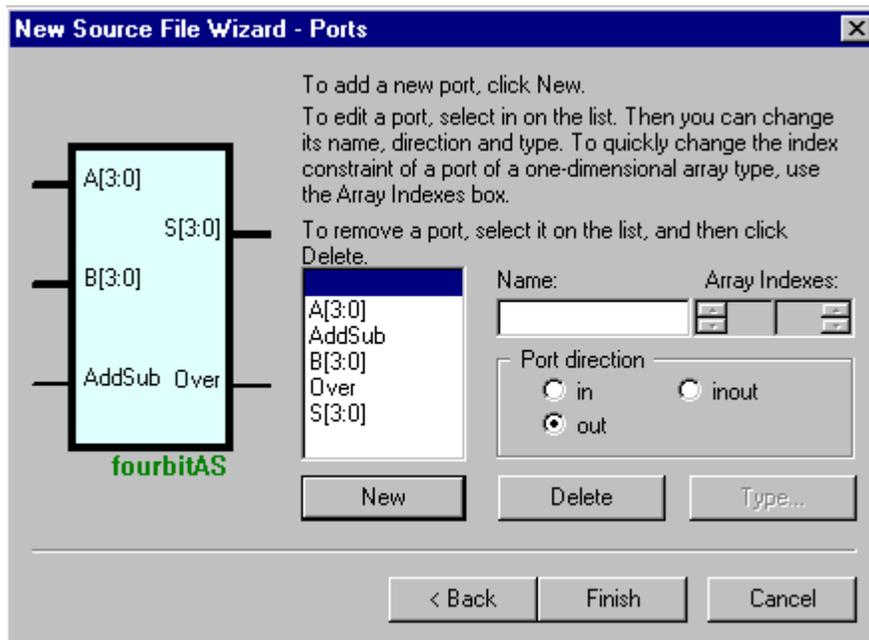

Figure 8
- Using the methods described here and Tutorial #1, add two 4-bit inputs named “A” and “B”, add one 1-bit input named “AddSub”, add one 4-bit output named “S”, and a 1-bit output named “Over”. Then, click Finish. (See Figure 8 on the next page)